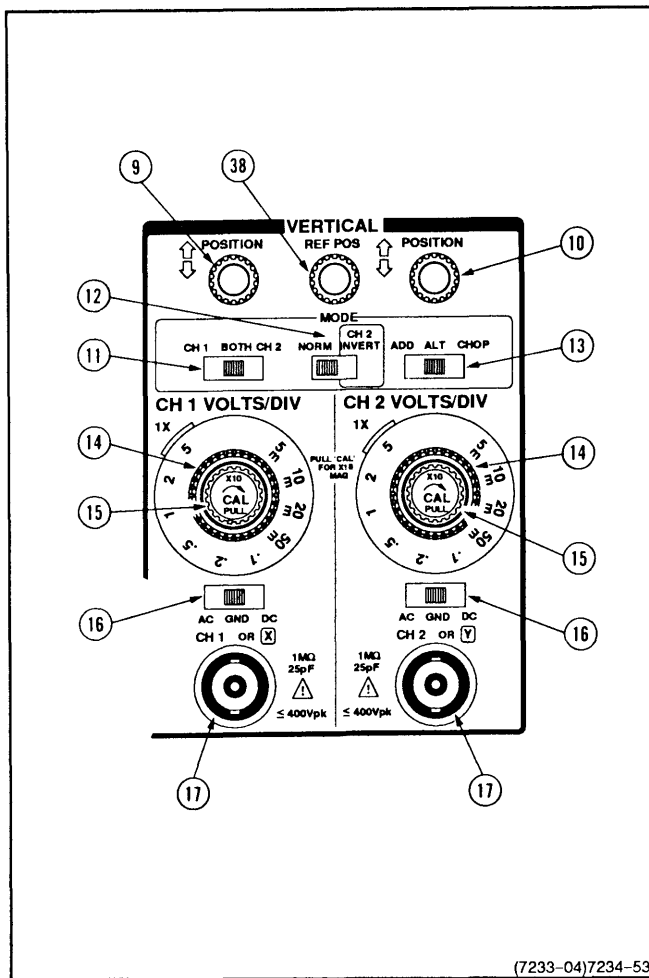

Figure 2-4. Vertical controls and connectors.
See Figure 2-4 for the location of items 9 through 17.
- ⑨ **Channel 1 Vertical POSITION Control** – Controls the vertical display position of the Channel 1 signal. This control does not function in the NON-STORE, X-Y mode.
- ⑩ **Channel 2 Vertical POSITION Control** – Controls the vertical display position of the Channel 2 signal. This control also positions the NON-STORE, X-Y mode display vertically.
- ⑪ **CH 1-BOTH-CH 2 Vertical Mode Switch** – Selects the vertical channel(s) for display in both NON-STORE and STORE.